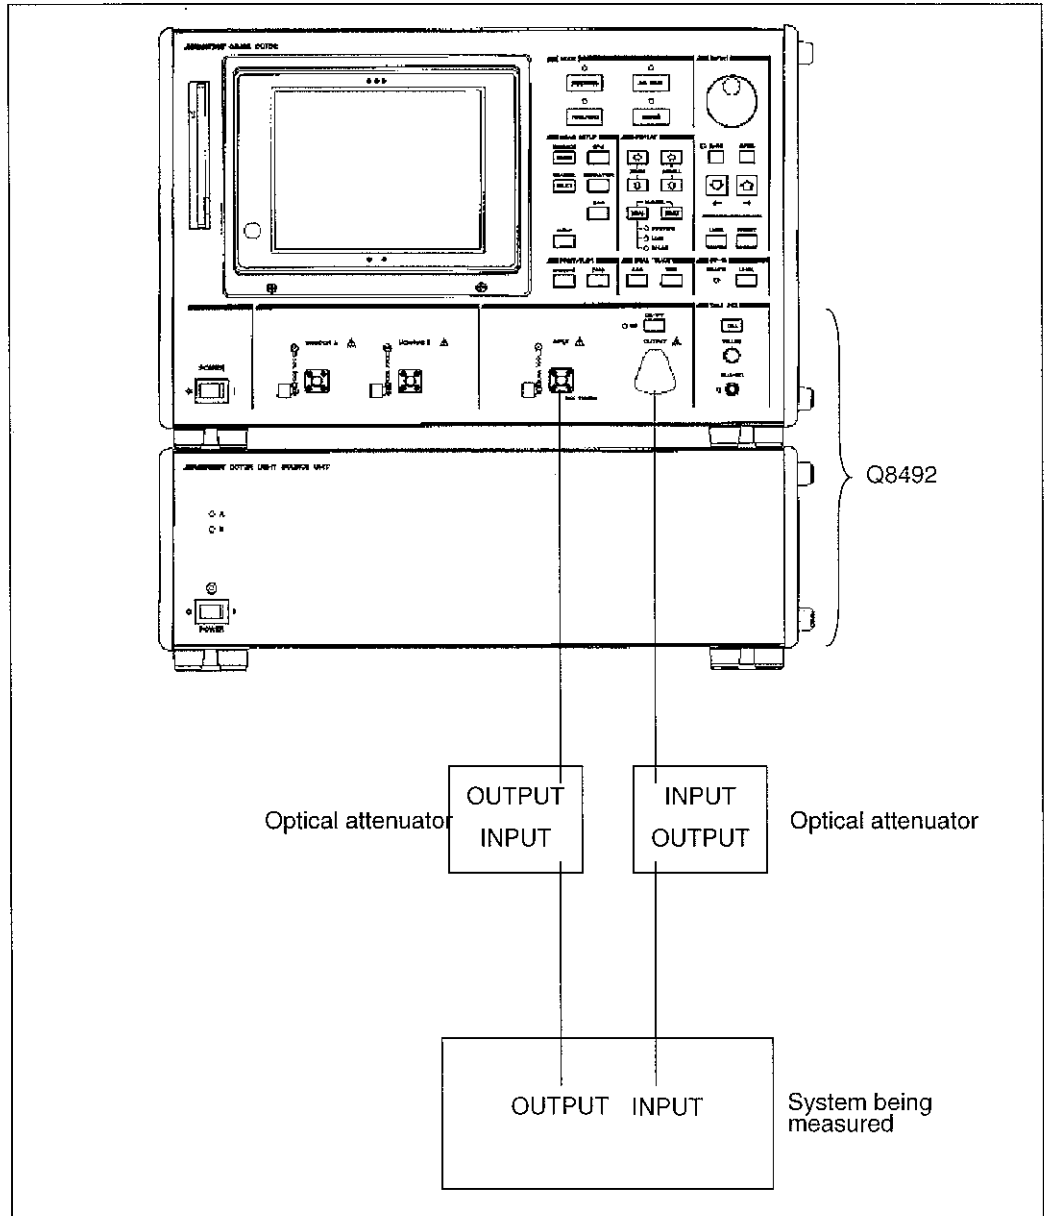

Figure 3-5 Connection to the System under Measurement (when using attenuator)
- Make the connection as shown in Figure 3-5 when the optical attenuator is used.